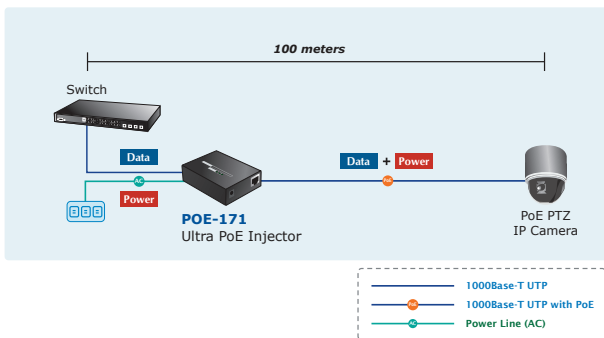

Figure 3: Connecting architecture with IEEE 802.3at/802.3af devices
4. Connect with IEEE 802.3at/802.3af devices. Due to the capability of IEEE 802.3at/802.3af Power over Ethernet, the POE-171 can directly connect with any IEEE 802.3at/802.3af end-nodes, such as PTZ (Pan, Tilt & Zoom) network cameras, PTZ speed dome, color touch-screen, Voice over IP (VoIP) telephones and multi-channel wireless LAN access points which support IEEE 802.3at/802.3af In-line Power over Ethernet port. The screen in Figure 3 appears.